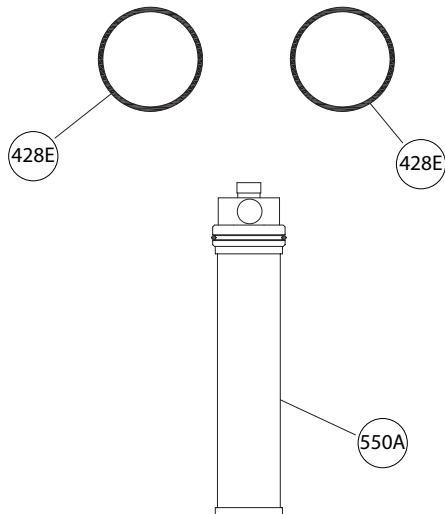

Figure 28: Filter kit
3. Repair Filter kit RK08174A consists of a new filter (550A) and two o-rings (428E). Two kits should be purchased at each filter change one for the drive end and one for the non-drive end. See Figure 28: Filter kit on page 49.